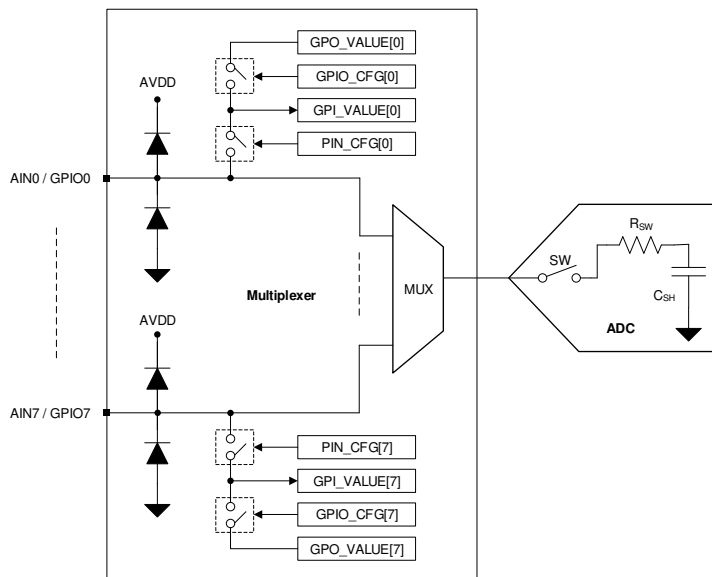

Figure 22. Analog Inputs, GPIOs, and ADC Connections
The eight channels of the multiplexer can be independently configured as ADC inputs or general-purpose inputs/outputs (GPIOs). As shown in Figure 22, each input pin has ESD protection diodes to AVDD and GND. On power-up or after device reset, all eight channels of the multiplexer are configured as analog inputs.
Figure 22 illustrates an equivalent circuit for the pins configured as analog inputs. The ADC sampling switch is represented by an ideal switch (SW) in series with a resistor (R_{SW} , typically 150 Ω) and a sampling capacitor (C_{SH} , typically 30 pF). During acquisition, the SW switch is closed to allow the signal on the selected analog input channel to charge the internal sampling capacitor. During conversion, the SW switch is opened to disconnect the analog input channel from the sampling capacitor.
To enable write access to the configuration registers for diagnostics, write 0x96 in the DIAGNOSTICS_KEY register. To enable bit-walk test mode, configure BITWALK_EN = 1b. In the bit-walk test mode (see Figure 22), the sampling switch (SW) remains open and the test voltage is applied on the sampling capacitor (C_{SH}) during the acquisition phase of the ADC. In diagnostic mode, the conversion process of the ADC remains the same as when not in diagnostic mode. The ADC starts the conversion phase on the rising edge of CS and outputs the code corresponding to the sampled test voltage. The output code of the ADC is expected to be proportional to the test voltage, as shown in Equation 2, after adjusting for DC errors (such as INL, gain error, offset error, and thermal drift of offset and gain errors).